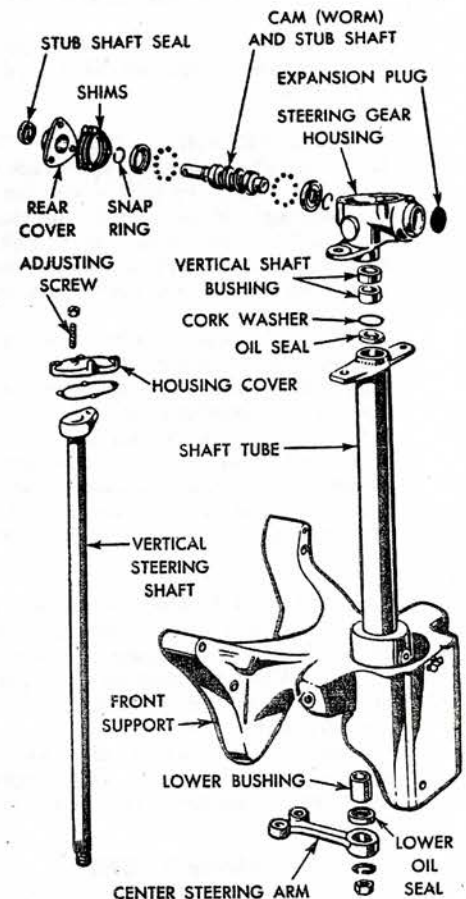

Fig. 54 Front support and steering gear. Model M
**VERTICAL STEERING SHAFT**—Fig. 54. To remove the vertical steering shaft, take off grilles and steering gear housing cover. Disconnect vertical steering shaft from center steering arm and push the shaft through the steering gear housing.